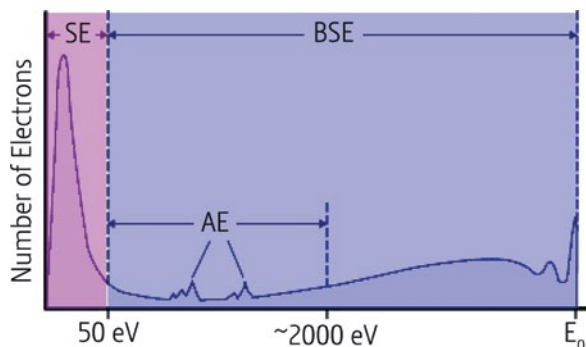

Figure 1B. Electron energy spectrum.
**Figure 1B** shows the full spectrum of electron energies. For simplification, other signals such as Auger electrons (AEs) will not be considered in this application note. Since secondary electrons (SEs) escape the sample close to the surface with a very low energy (typically <50 keV), they can deliver images with extreme surface sensitivity, generating excellent topographical information.